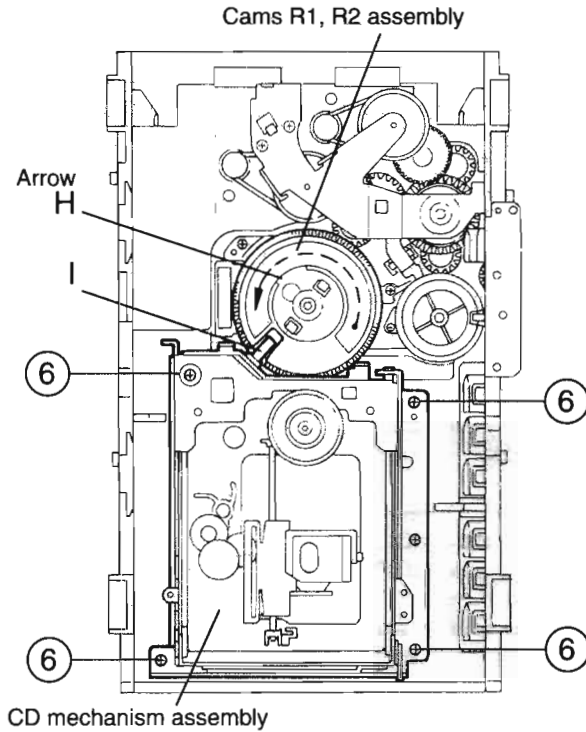

Fig.10
**Removing the CD mechanism assembly(See Fig.10)**
1. While turning the cams R1 and R2 assembly in the arrow direction "H", align the shaft "I" of the CD mechanism assembly to the position shown in Fig.10.